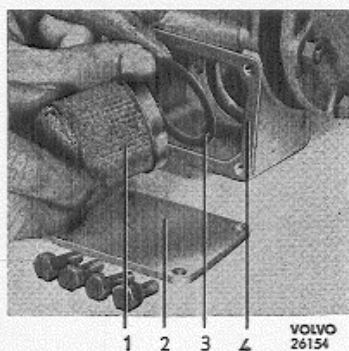

Fig. 19. The overdrive oil strainer.
1. Remove the cover (2, Fig. 19) and remove the oil strainer (1).
3. Check that the gasket (3) is in good condition and lay it in position. Fit the oil strainer, a new gasket (4) and the cover.